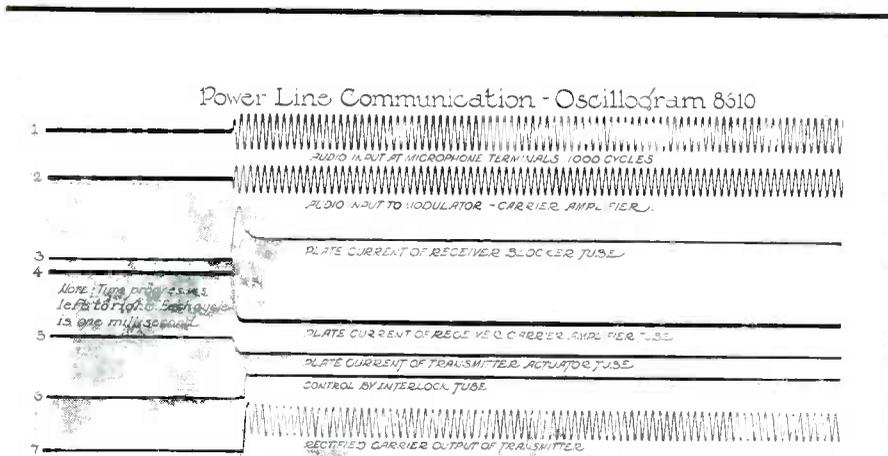
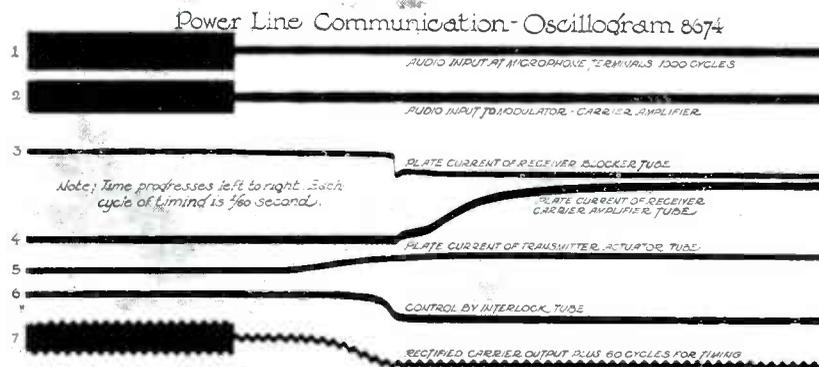

Fig. 3A—Oscillograms illustrating application of input tone
Fig. 3B—Oscillogram showing stopping of input tone
As shown in Fig. 3A, g_a , $g_b = g_a$, and g_c are the branch conductances of the symmetrical π , with the dissymmetrical π branch conductances g_a' , g_b' , and g_c' given by Eq. (3) shown in Fig. 3B.